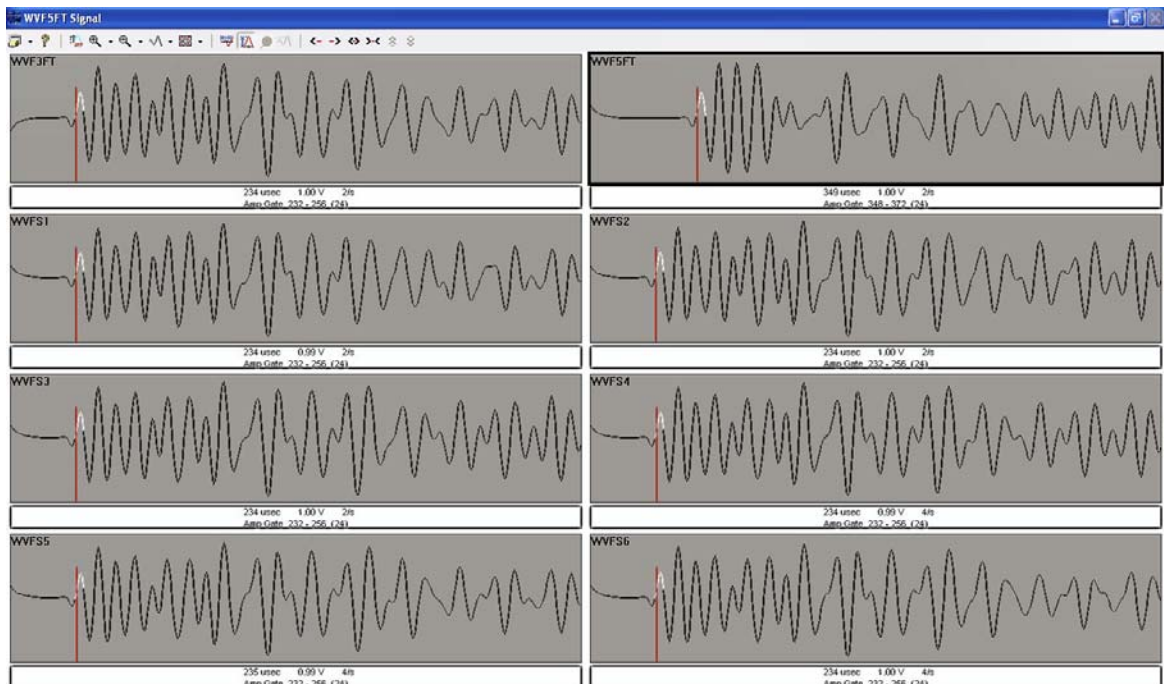

Figure 7-4 Warrior Screen Required
- 1 Open the screen shown in **Figure 7-4** which is available within the Warrior software. Refer to the Warrior manual (**MN-WARRIOR**) for further details.